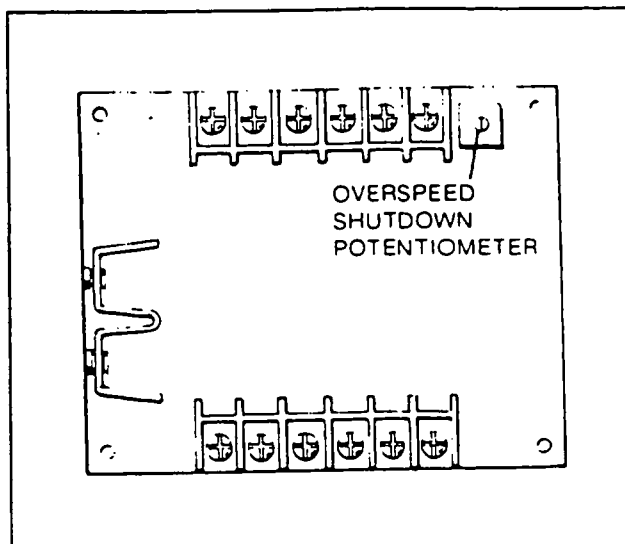

Figure 4. Engine Control Circuit Board
1. See Figure 4. Turn the OVERSPEED SHUTDOWN POTENTIOMETER all the way clockwise against its stop. **DO NOT FORCE.**
4. **SLOWLY** increase engine speed until the frequency meter reads about 70 Hertz. Hold that setting, then **SLOWLY** turn the OVERSPEED SHUTDOWN POTENTIOMETER counterclockwise (CCW) IN VERY SMALL INCREMENTS. Wait about four (4) seconds between each incremental adjustment. When engine shuts down, overspeed shutdown setting is correct.